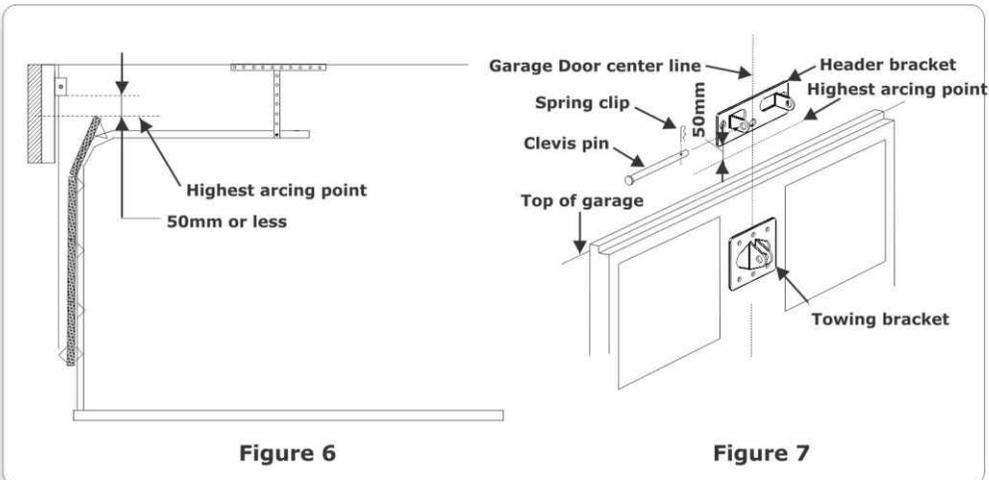

FIGURE 6 AND 7. HEADER BRACKET MOUNTING
- Determine the highest arcing point of the garage door and mark this as a horizontal line on the header above the top edge of the garage door. (Figures.6 and 7)
- Determine the Garage Door Centreline (Figure.6) and affix the Towing Bracket to a structural member of the garage door. The Towing Bracket should be mounted with reference to the top edge of the garage door in accordance with the appropriate diagram as depicted in Section.2.1 Method A or B